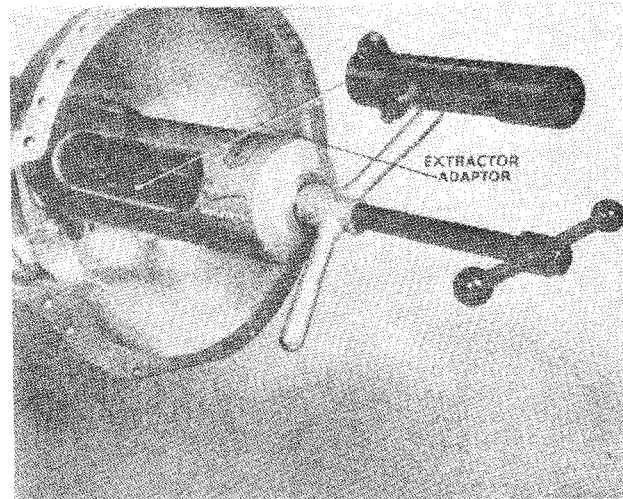

**Fig. 8** Showing Needle Roller Retainer Tube Tool No. 20SM68 being used to drive out Countershaft.
- (i) After removal of the countershaft front end cover plate which is secured by two wired setscrews, plain washers and lead linger drive out the countershaft using a suitable tube as shown in Fig. 8, to retain the 48 needle rollers in position maintaining contact throughout between the tube and countershaft.